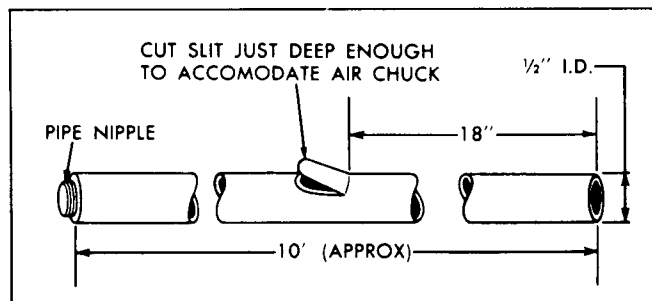

Fig 8-1 Typical Drain Hose
1. Insert a length of hose (Fig. 8-1 for details) into the gas tank, pipe nipple end first, until weighted end of hose rests on bottom of tank.